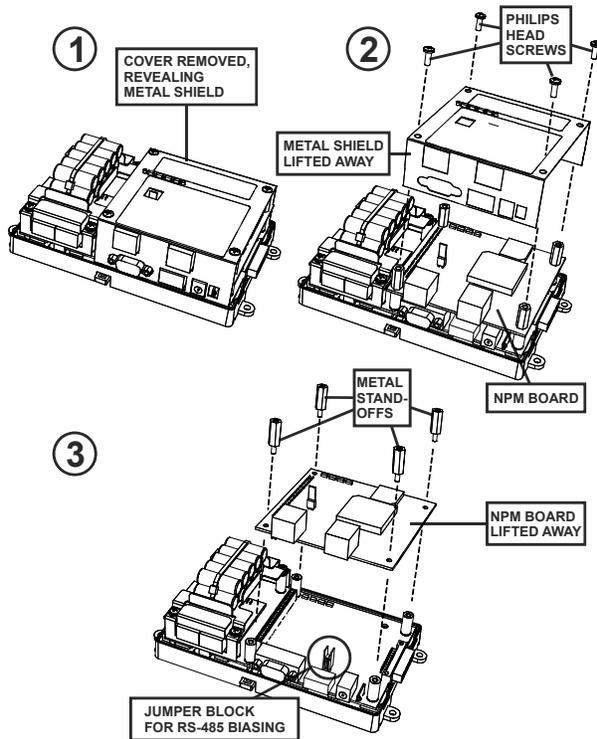

Fig. 11. Basic stages of controller disassembly.
In many cases, you must furnish the required two 2-pin shorting blocks. They must be the "shorter style" jumper blocks. Otherwise, tall blocks interfere when reseating the NPM board. Only units shipped after mid-2011 may include the jumper shorting blocks, positioned on one pin only of both 2-pin jumpers. See Fig. 11 below. Earlier units have only the four bare jumper pins.
- Step 1** Carefully replace the NPM-2 board back onto the 50-pin connector, with its corner mounting holes aligned on the four lower stand-offs. Press down on the connector to fully seat the NPM board. See Fig. 11.